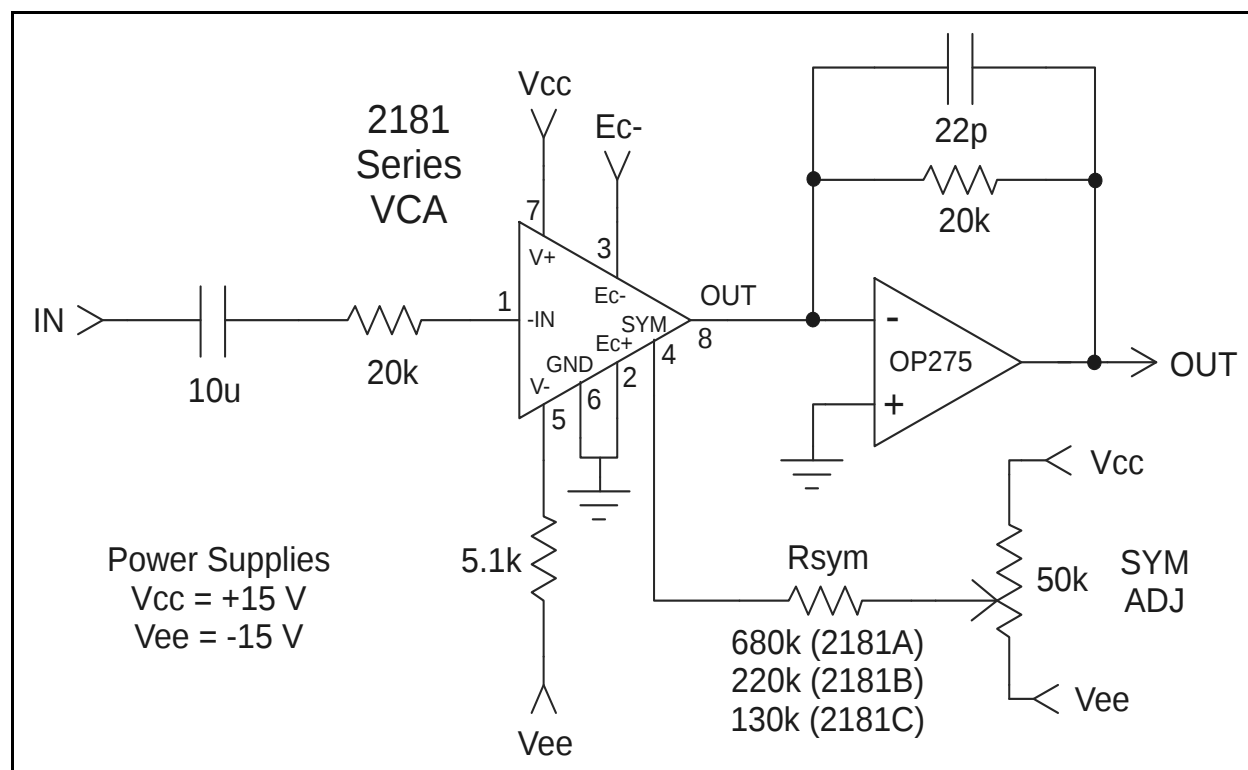
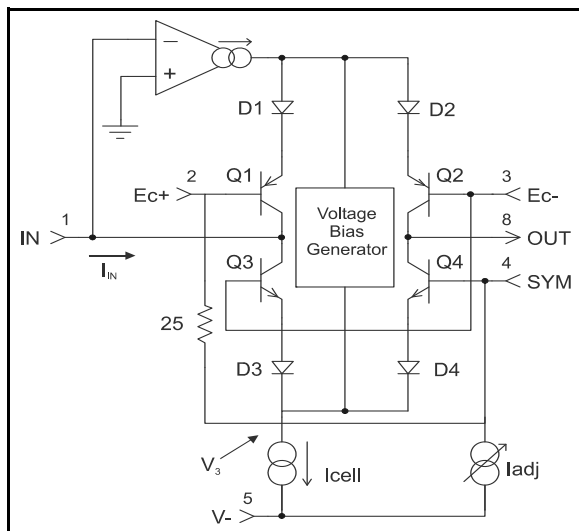
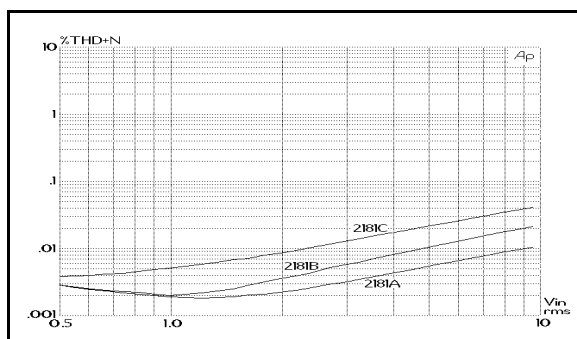
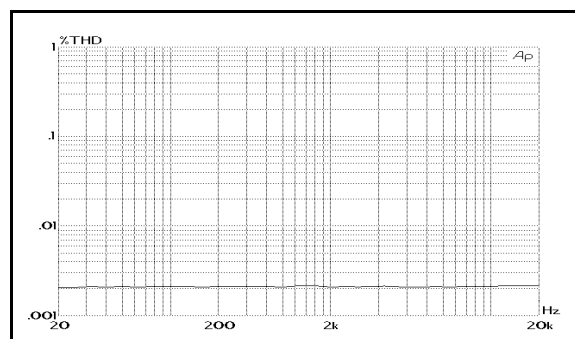

Figure 2. Typical Application Circuit
Figure 5. Simplified Internal Circuit Diagram
Figure 10. 1 kHz THD+Noise vs. Input Level, 0dB Gain
Figure 13. 2181A THD+N vs Frequency, 0dB gain 1kHz 1V
2. Unless otherwise noted, $T_A = 25^\circ\text{C}$, $V_{CC} = +15\text{V}$, $V_{EE} = -15\text{V}$. Test circuit as shown in Figure 2. SYM ADJ is adjusted for minimum THD at 1 V, 1 kHz, $E_{C-} = -E_{C+} = 0\text{ V}$.
Figure 5 presents a considerably simplified internal circuit diagram of the IC. The ac input signal current flows in pin 1, the input pin. An internal operational transconductance amplifier (OTA) works to maintain pin 1 at a virtual ground potential by driving the emitters of Q1 and (through the Voltage Bias Generator) Q3. Q3/D3 and Q1/D1 act to log the input current, producing a voltage, V₃, which represents the bipolar logarithm of the input current. (The voltage at the junction of D1 and D2 is the same as V₃, but shifted by four forward V_{be} drops.)
In normal operation, the output current is converted to a voltage via an opamp-based I-V converter, as shown in Figure 2, where the conversion ratio is determined by the feedback resistor connected between the output and inverting input. The signal path through the VCA and the output opamp is non-inverting.
The 2181 current consumption is determined by the resistor between pin 5 (V-) and the negative supply voltage (V_{EE}). Typically, with 15V supplies, the resistor is 5.1 kΩ, which provides approximately 2.4 mA. This current is split into two paths: 570 μA is used for biasing the IC, and the remainder becomes I_{CELL} as shown in Figure 5. I_{CELL} is further
The 2181-Series VCAs are intended to be adjusted for minimum distortion by applying a small variable offset voltage to pin 4, the SYM pin. Note that there is a 25 Ω resistor internal to the 2181 between pin 4 and pin 2. As shown in Figure 2, Page 3, the usual method of applying this offset is to use the internal 25 Ω resistor along with a larger value resistor to form a voltage divider connected to the wiper of a trim pot across the supply rails.
The 2181-Series VCA design, fabrication and testing ensure extremely good audio performance when used as recommended. The 2181 maintains low distortion over a wide range of gain, cut and signal levels. Figures 10 through 12 show typical distortion performance for representative samples of each grade of the part. At or near unity gain, the 2181 behaves much like a good opamp, with low distortion over the entire audio band. Figure 13 shows typical THD for a 2181A over frequency at 0 dB gain, with a 1 V input signal, while Figure 14 details the harmonic content of the distortion in a typical A-grade part.
The Input pin (pin 1) is a virtual ground with negative feedback provided internally (see Figure 5, Page 4). The input resistor (shown as 20 kΩ in Figure 2, Page 3) should be scaled to convert the available ac input voltage to a current within the linear range of the device. Generally, peak input currents should be kept under 1 mA for best distortion performance.
Refer to Figures 10 through 12 to see how distortion varies with signal level for the three parts in the 2181 Series for 0 dB, +15 dB and -15 dB gain. The circuit of Figure 2, Page 3 was used to generate these curves.
A designer may trade off noise for distortion by decreasing the 20 kΩ current-to-voltage converting resistors used at the input and output in Figure 2, Page 3. For every dB these resistor values are decreased, the voltage noise at the output of the OP275 is reduced by one dB. For example, with 10 kΩ resistors, the output noise floor drops to -104 dBV (typical) at 0 dB gain — a 6 dB reduction in noise because 10 kΩ is 1/2 of (6 dB lower than) 20 kΩ.
The Output pin (pin 8) is intended to be connected to a virtual ground node, so that current flowing in it may be converted to a voltage (see Figures 2 & 15). Choose the external opamp for good audio performance. The feedback resistor should be chosen based on the desired current-to-voltage conversion constant. Since the input resistor determines the voltage-to-current conversion at the input,
The SYM pin (pin 4) is actually a sort of additional positive-sense control port. It is provided to allow V_{be} mismatches in the core transistors to be adjusted after packaging and installation in the circuit board. It should only be used for this purpose. Connect pin 4 only to a high-impedance source as shown in Figures 2 and 15.